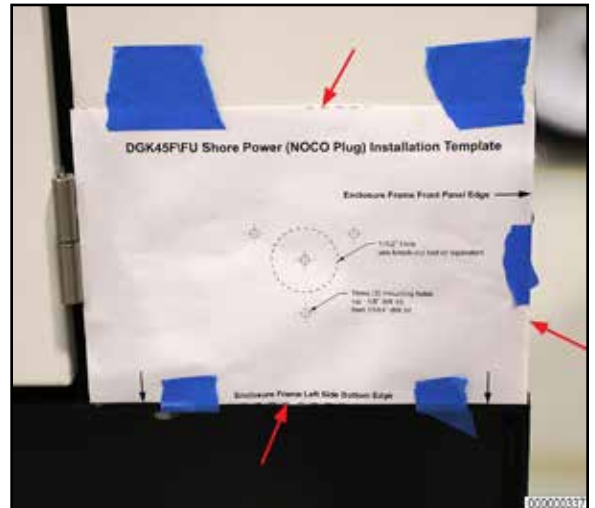

Figure 5
- **Step 7:** Align template on lower left corner of Enclosure-Frame, as shown. Secure in place with masking tape. (Figure 5)